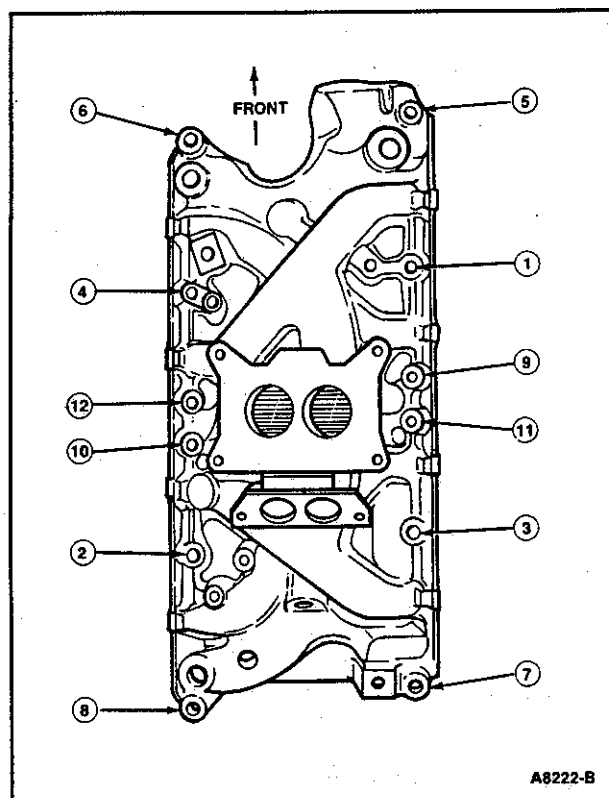

Figure 50 Intake Manifold Bolts Tightening Sequence — 302 CID and 351 W Engines
5. Be sure the holes in the manifold gaskets and manifold are in alignment. Install the intake manifold attaching nuts and bolts. Tighten the nuts and bolts in two steps (Figure 50). Tighten all nuts and bolts in sequence to specifications.